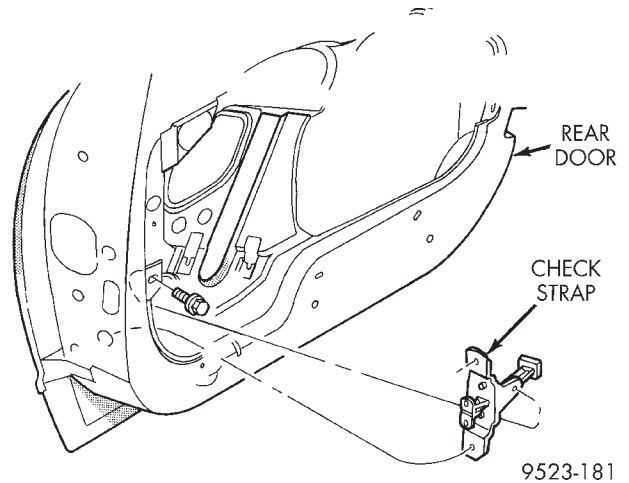

Fig. 57 Rear Door Check Strap
- (1) Remove rear door trim panel.
- (2) Remove bolt holding check strap to hinge pillar.
- (3) Remove bolt holding check strap to inner door panel (Fig. 57).
- (4) Remove bolts holding check strap to door end frame.
- (5) Separate check strap from vehicle.